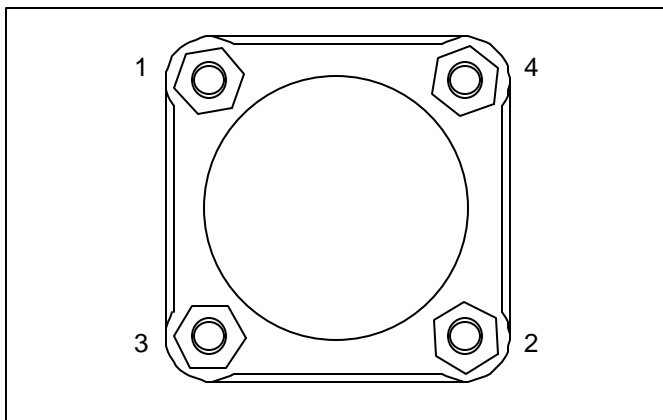

Figure 3 - Mounting Nut Tightening Sequence
10) Install the nuts and tighten them evenly in a sequence alternating diagonally from 1 to 2, and then 3 to 4 as shown in Figure 3. Do not over tighten one side as it may tilt the valve and prevent a good seal.